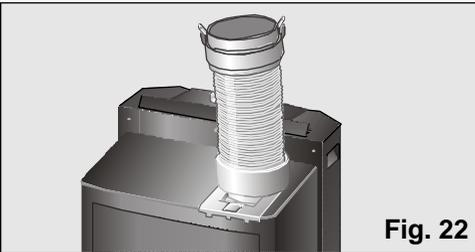

Fig. 22
- ❑ Remove the diffusion duct and set the air expulsion tube to the position shown in fig 22.